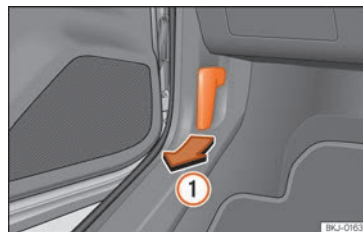

Fig. 11 Release lever in the driver's footwell area.
- Open the door and pull the lever under the dashboard »» Fig. 11 ①.